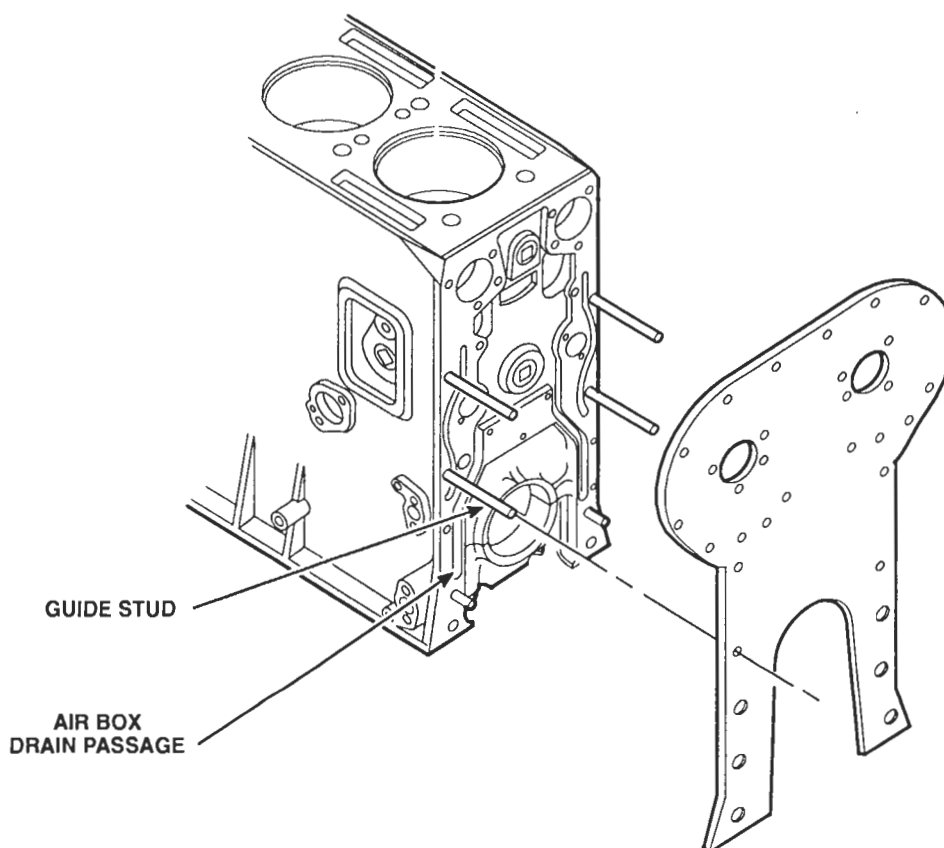

Figure 3. Front End Plate Installation
2. Use guide studs J 1927-01 to set the front end plate (Figure 3.) next to the cylinder block and install the bolts and lock washers. Do not tighten the bolts at this time. Wipe the excess gasket cement from the bores in the end plate and the cylinder block.